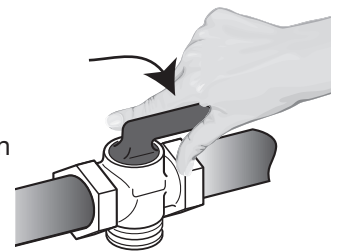

Figure 10
- 7** After connecting the appliance to the gas supply, make sure all burners knobs are in the OFF position. Once regulator is in place, open the shut-off valve in the gas supply line. Wait a few minutes for gas to move through the gas line. (See Figure 10)